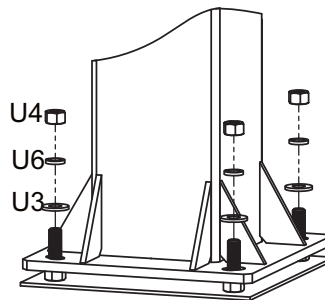
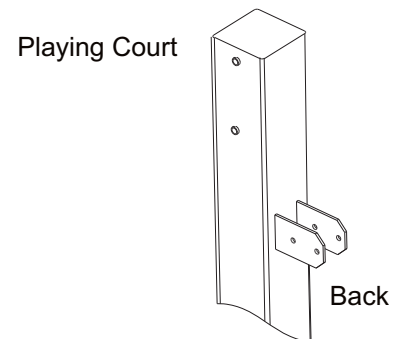

FIGURE 1B
FIGURE 1C
- B. Remove the Padding from Main Post (A). Place the Main Post (A) over the J-Bolts. Slide a 18mm Thick Washer (U3), a Lock washer 18mm (U6) and thread a 18mm Hex Nut (U4) to each J-bolt. Tighten the Nuts only a few turns onto the J-Bolts as shown in FIGURE 1B.
- C. If the Main Post (A) is not exactly vertical, adjust the 18mm J-Bolt Hex Nuts (U4) located under the Post base. Tighten all of the Hex Nuts (U4) Above Post base when Main Post (A) is vertical.
*NOTE: Face the Main Post (A) with Actuator Bracket facing away from playing court (as shown in FIGURE 1C).*